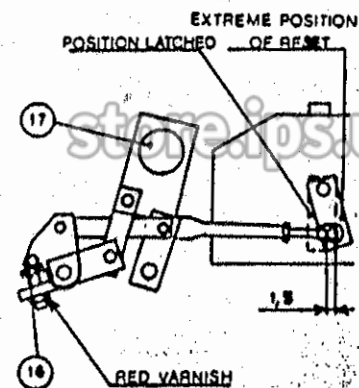

Fig. 14
- 1) Breaker equipped with signal indication with memory for overload and short circuit release (with or without indication.) (Fig. 14).
a) Adjustment. When breakers are equipped with this accessory, it is necessary to place breaker in open position and adjust screw (16) to effect latching the release. A very distinct click indicates latching. To insure a margin of safety, unscrew $\frac{1}{4}$ of a turn.
- 1) Adjustment. With the breaker in the open position and the release bar latched as illustrated in Fig. 14, adjust screw (30) lengthening linkage until stirrup is against stop (29), then back off $\frac{1}{2}$ turn.